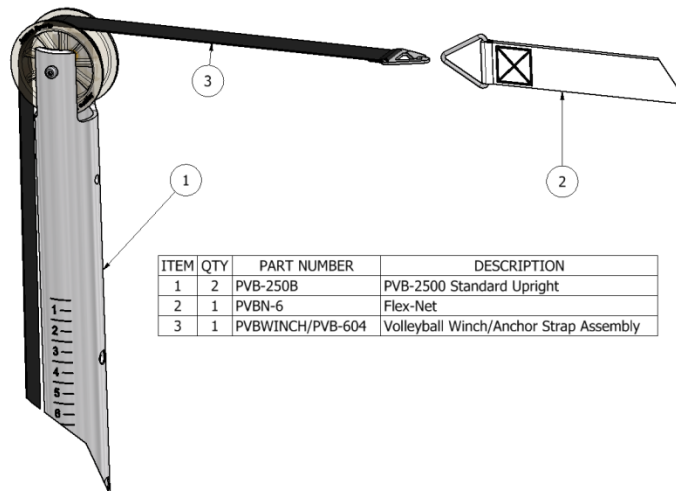

Figure 6-5: Attach net to straps.
9. Attach one end of net to anchor strap, then attach other end to winch strap (Figure 6-5).